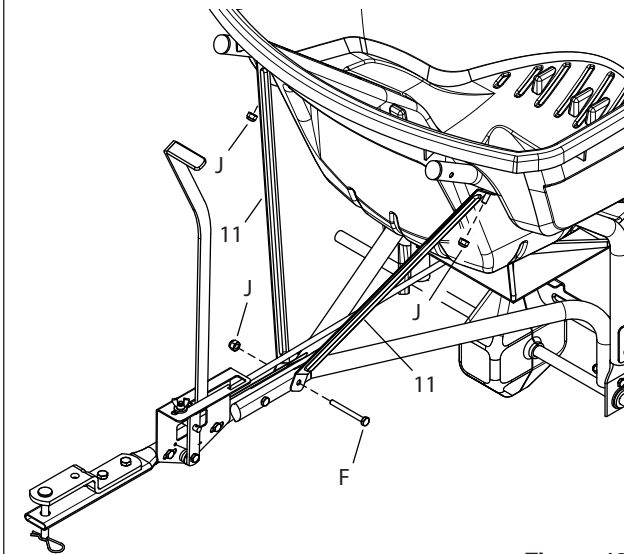

Figure 13
STEP 13: (SEE FIGURE 13)
- Fasten the hopper braces (11) to the hopper support tubes using the nylock nuts (J) that were assembled earlier. **Do not tighten completely.**
- Fasten the loose ends of the hopper braces to the hitch tube using a 1/4" x 3-1/2" hex bolt (F) and a 1/4" nylock nut (J). **Do not tighten completely.**